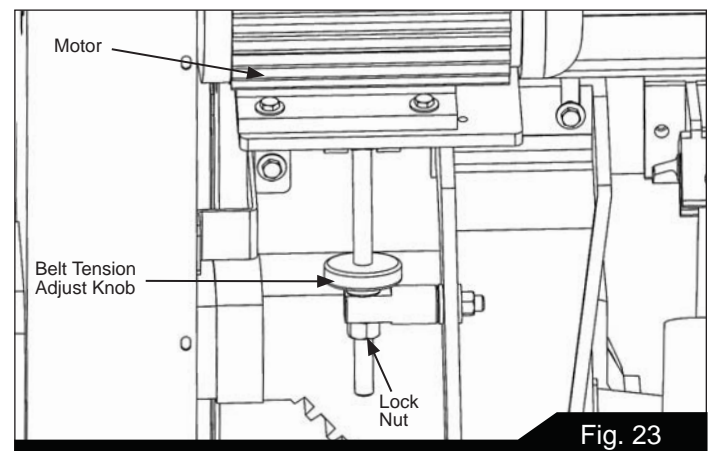

Fig. 23
3. Loosen the *belt tension adjust knob* located in the rear under the motor (see Figure 23 for knob direction). Lift the *motor* upward to loosen the belt.
6. Tighten the drive belt by turning the belt tension adjustment knob (see Figure 23). The belt must be secure enough it does not slip when the machine is running. Do not over tighten. This will cause premature wear on belt and pulley bearings.